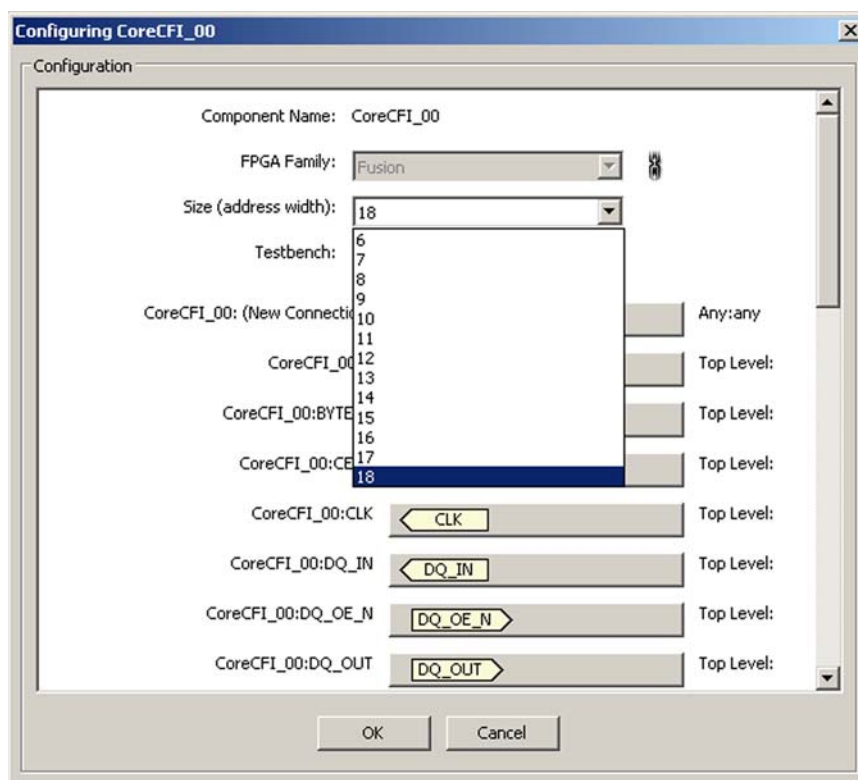

Figure 5-22 • CoreCFI IP Configuration Window
2. Configure the CoreCFI IP. Figure 5-22 shows the CoreCFI IP Configuration GUI window in CoreConsole. The **FPGA Family** selected must be Fusion. The **Size (address width)** can be 6 to 18 bits. The number of address bits selected indicates the amount of the embedded flash memory accessible through CoreCFI—e.g., 10 bits = 1 kB, 12 bits = 4 kB, 18 bits = 256 kB.